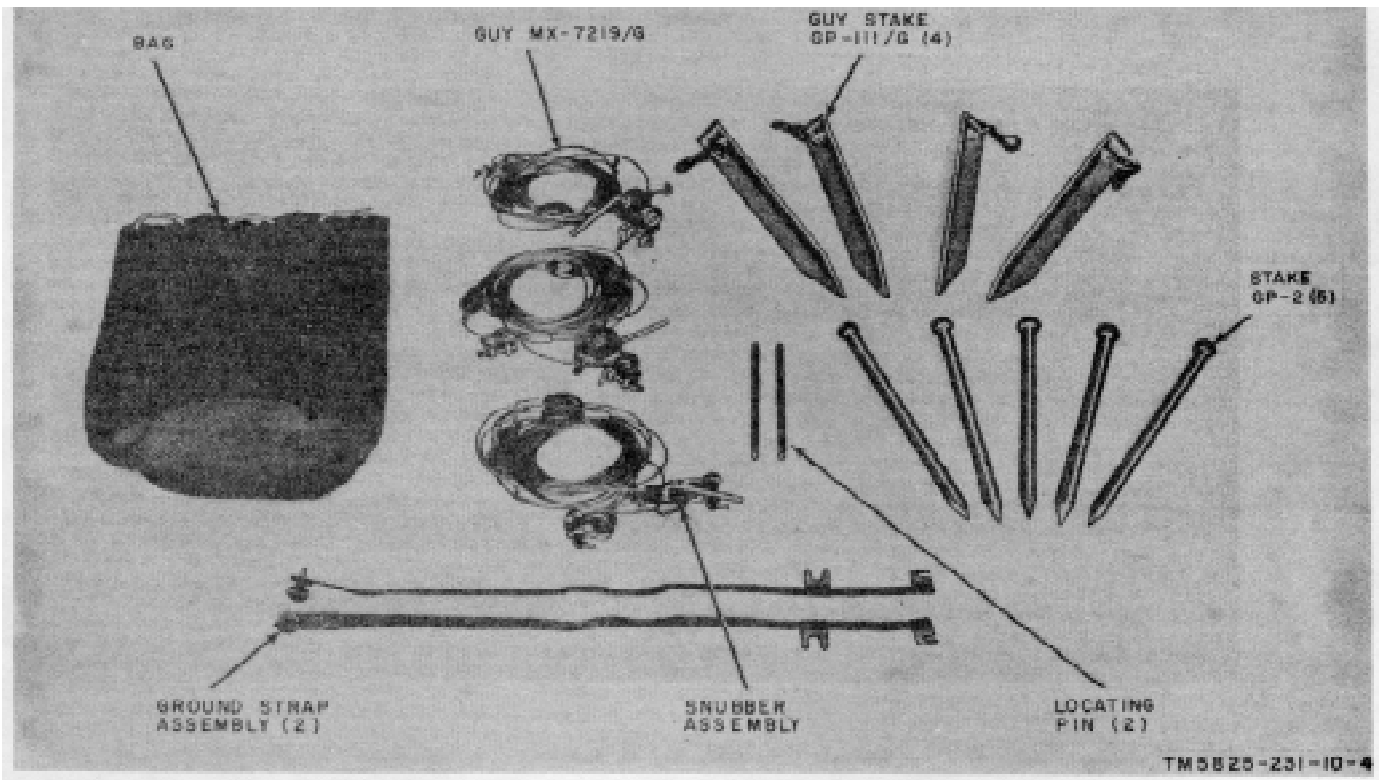

Figure 1-6. Guy Set OA-7908/G.
d. *Guy Set OA-7908/G* (fig 1-6) The guy set includes three 30-foot wire guys, four Guy